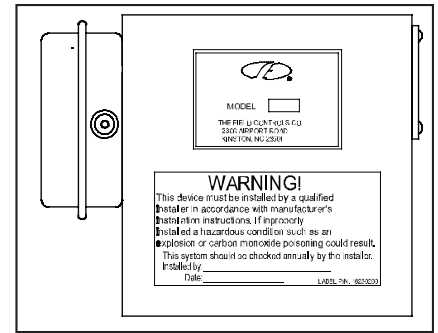

Figure 1
1. The power venting system must be installed by a qualified installer. "Qualified Installer" shall mean an individual who has been properly trained or is a licensed installer. The installer must write or imprint his name, phone number, and date of installation on the installation tag. The tag should be attached to the system control kit box or power venter unit. Also, the included adhesive "Warning!" label should be attached to the Control Kit box, as shown in Figure 1, and the installers name be written on it. Recording burner and venting system initial operational information is strongly recommended as a guide for service or burner tune-up. Enter this on the back page of this manual. The appropriate wiring diagram for the type of controls on the water heater must be affixed to the water heater jacket upon completion of the installation.